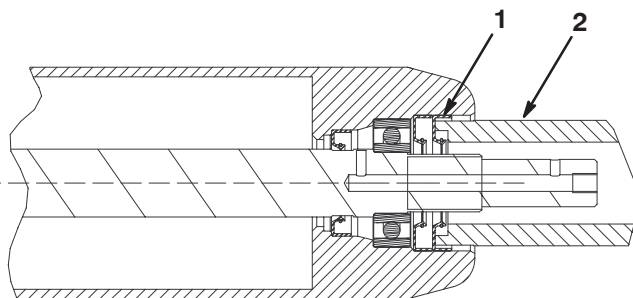

Figure 13
17. Repeat the procedure to install the second outer seal (Fig. 13).